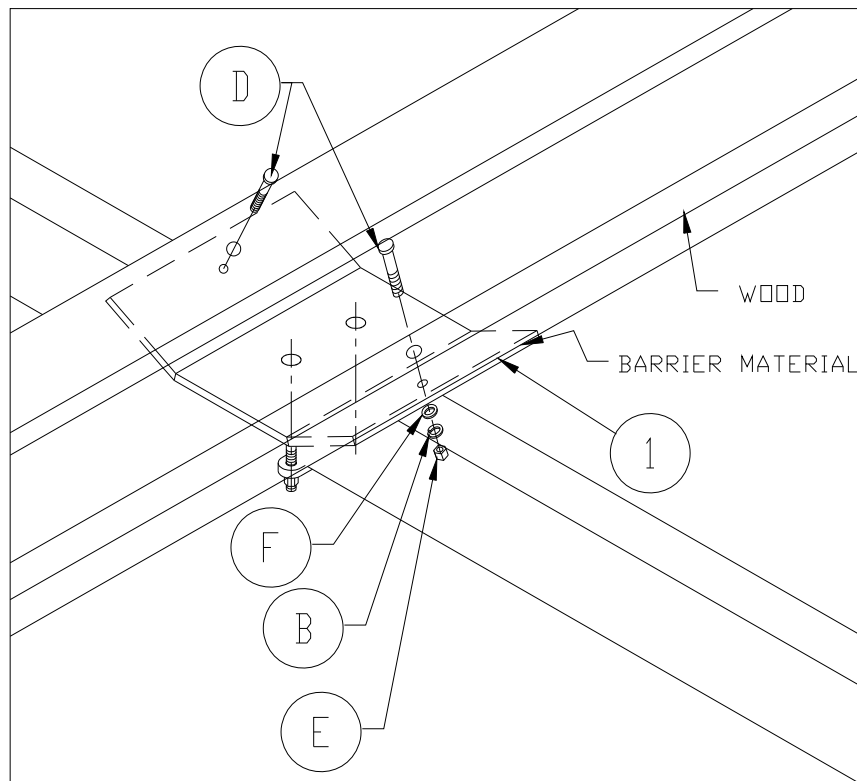

Figure 2-3.
1. Refer to Figure 2-3. Place two of the 2" x 6" x 12' pressure treated wood into each pair of Mounting Plates. Ensure that the ends of the wood are even with one another.